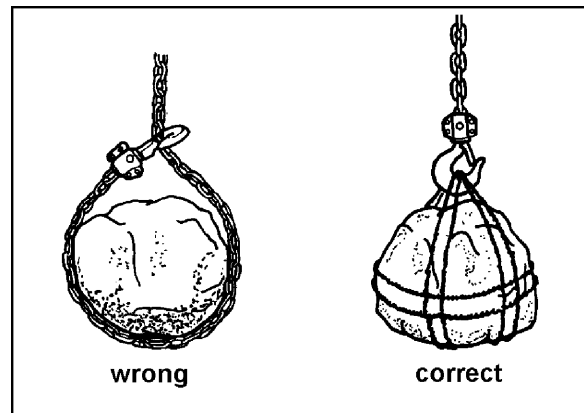

Figure 10
- When lifting loads, hook the load with slings. Do not use the lever hoist chain as a sling (Figure 10).